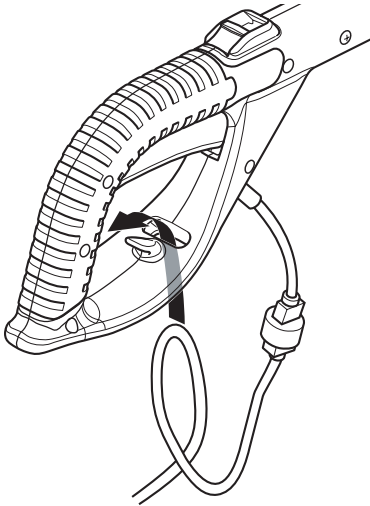

Figure 6 - Inserting Extension Cord Loop Through Bottom of Handle
3. Create a loop in the extension cord and insert the loop through the bottom of the handle. Pull the loop tight around the molded cord hook (see Figures 6 and 7).